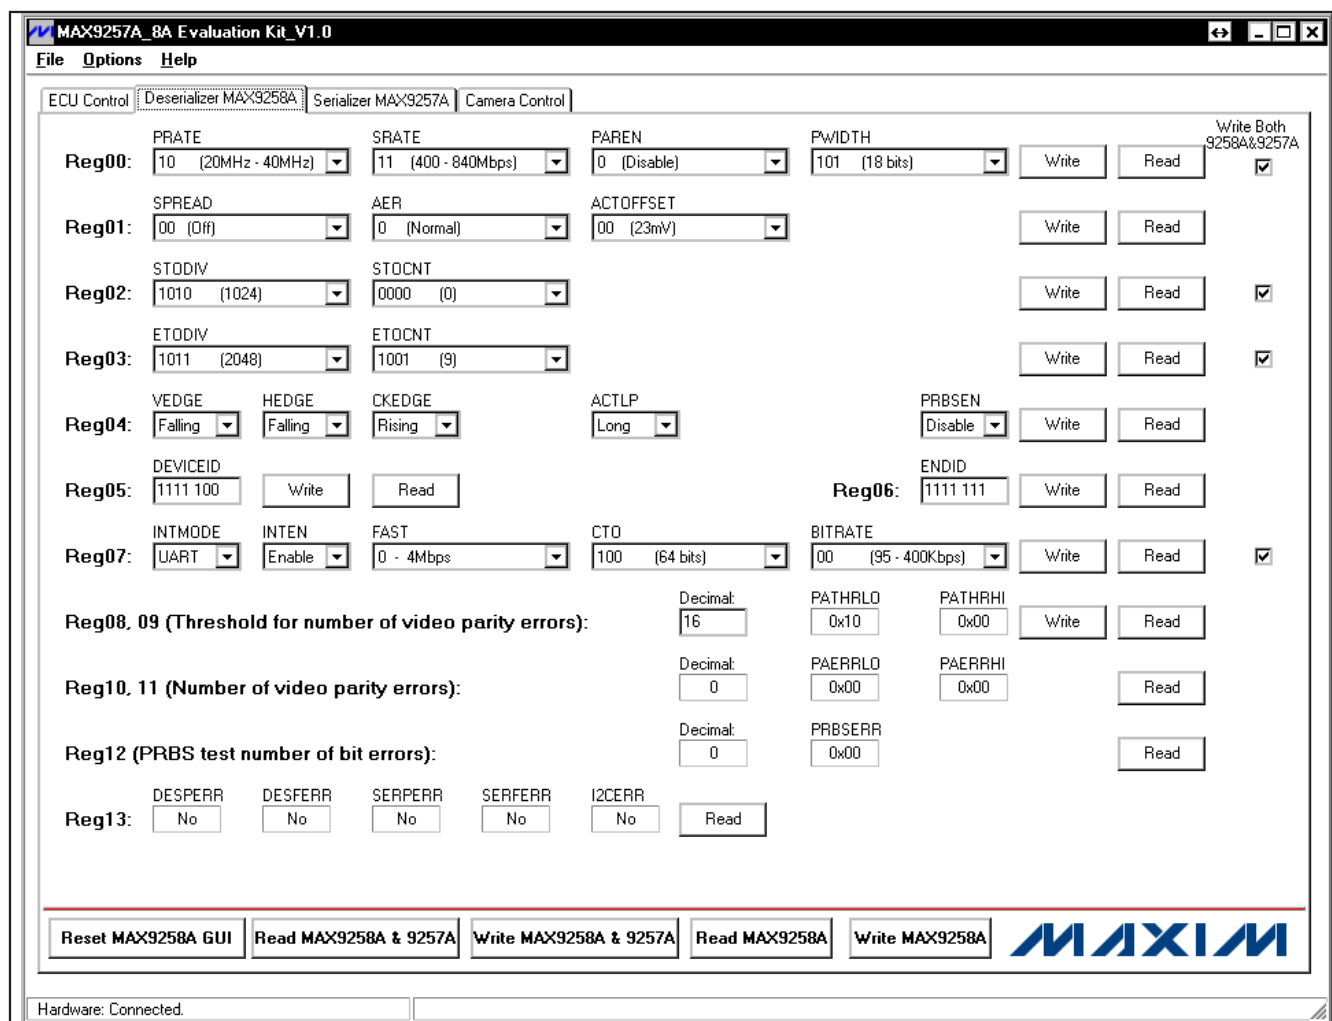

Figure 4. MAX9257A/MAX9258A Evaluation Kit Software—Deserializer MAX9258A Tab
- 17) Click on the **Deserializer MAX9258A** tab to move to the **Deserializer MAX9258A** tab sheet (Figure 4).
On the **Deserializer MAX9258A** tab sheet (Figure 4), the ECU can write or read all registers on the MAX9258A by pressing the **Write** or **Read** buttons on the right of each register. Refer to the MAX9257A/MAX9258A IC data sheet for the definition of each register.
- 3) Navigate to the **Deserializer MAX9258A** tab sheet (Figure 4). Press the **Read MAX9258A & 9257A** button to refresh the current register values on the GUI.
- Navigate to the **Deserializer MAX9258A** tab sheet (Figure 4). Press the **Read MAX9258A & 9257A** button to refresh the current register values on the GUI.